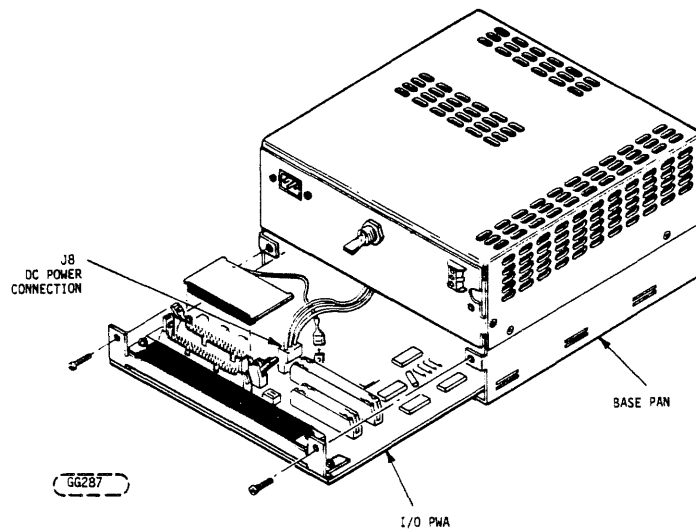

FIGURE 6-2. I/O PWA REMOVAL
2. Refer to Figure 6-2. Remove screws securing I/O Adapter PWA and slide it out far enough to disconnect J8, the DC power connector to the I/O PWA.
1. Refer to Figure 6-2. Remove two (2) screws that secure the I/O Adapter PWA bracket to the Power supply frame.